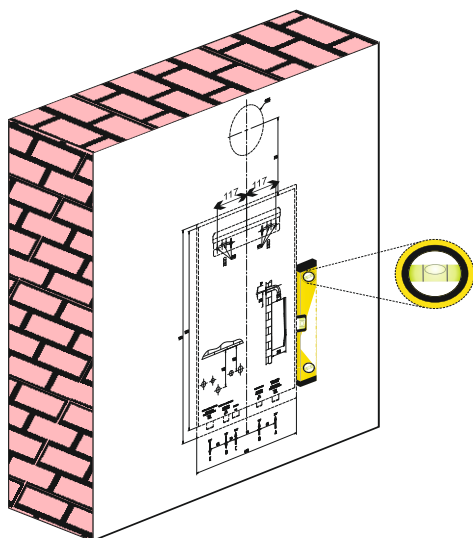

figure-10, Vertical, flat wall
- ❑ Mount this appliance on vertical, flat walls only. Refer to figure-10.